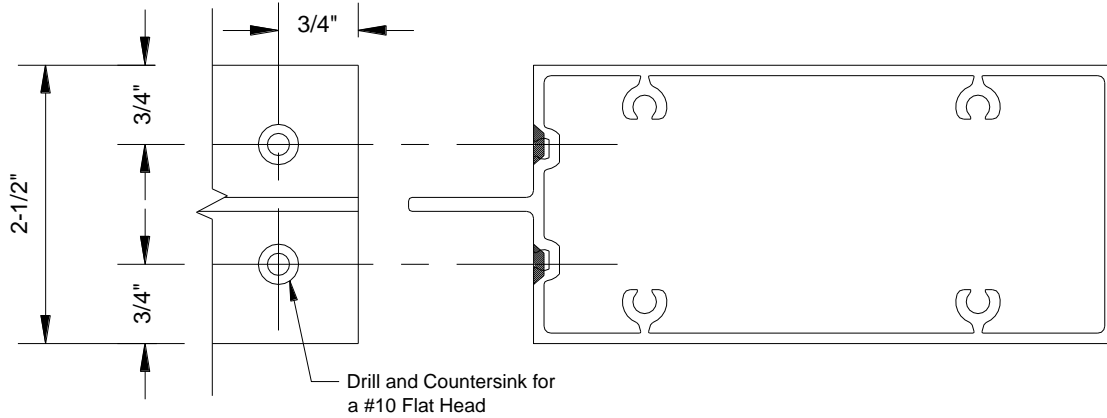

Figure 44: SSG Horizontal Fabrication
- 18.2 At each end of the SSG horizontal, drill #11 (.191 DIA.) clear hole for a #10 fastener and countersink (.375 dia) as shown on **FIGURE 44**. (2) at each end of member.